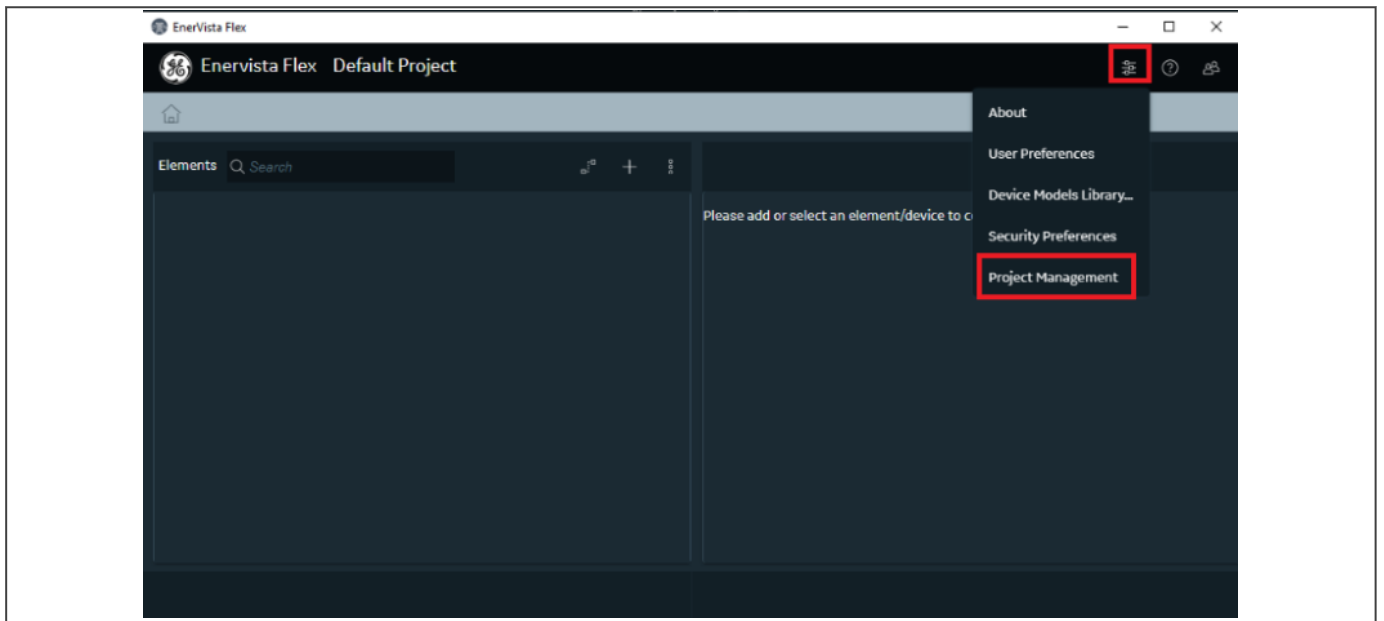

Figure 1: Step 1 - Access project management area
The MU360 has six physical communication interfaces, as shown in Figure 1. Each interface is compatible with 100BASE-LX (except the SFP6) or 1000BASE-LX, 1310nm wavelength optical Small Form-factor Pluggable (SFP) transceivers. More details see Chapter 6 - Communication.
- Check if LED 7 (figure 1) is on or blinking, have communication